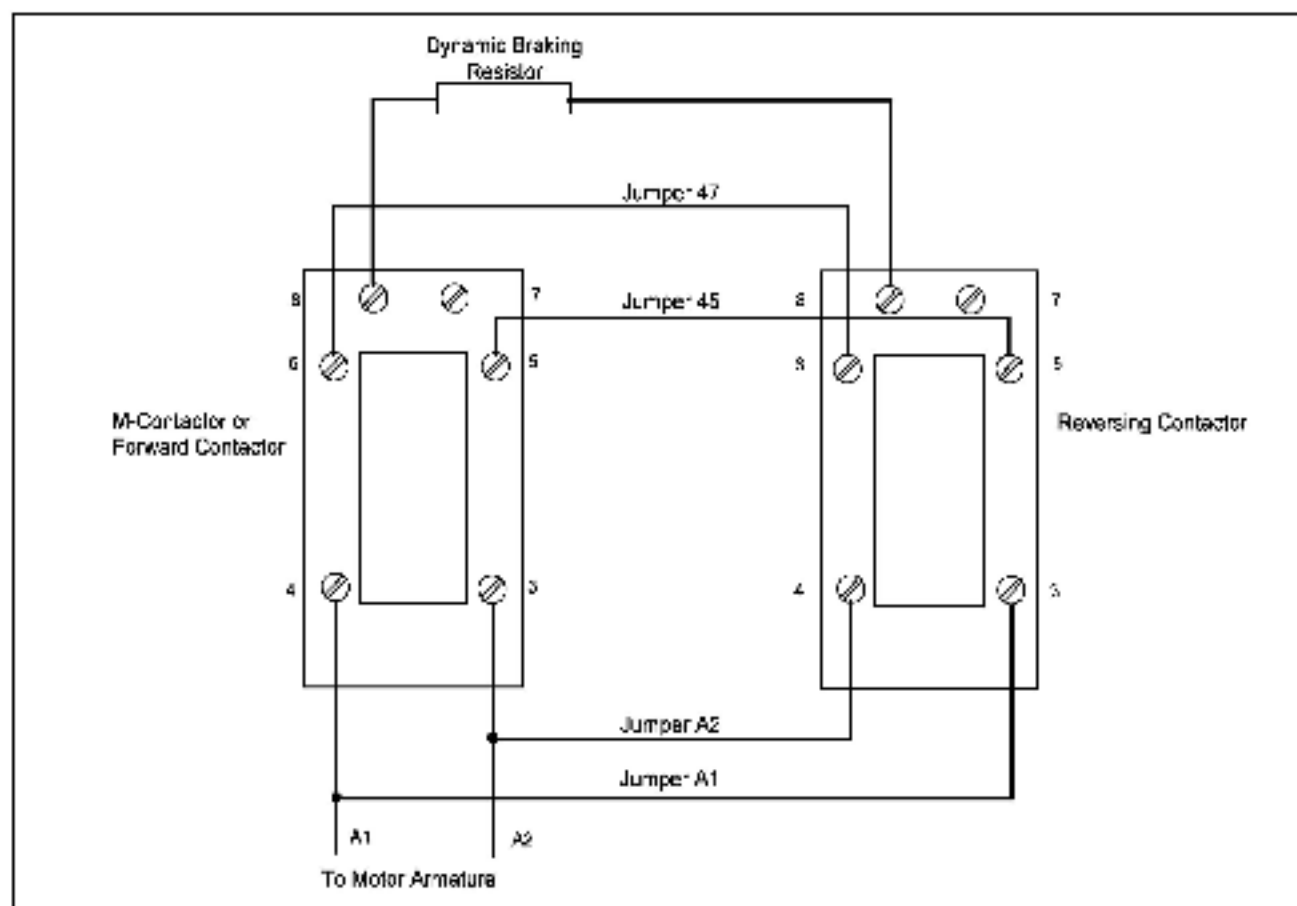

Figure 3 Dynamic Braking Resistor Connections for Non-Regenerative FlexPak Plus Drives With a Reversing Contactor
- Step 6. For non-regenerative **FlexPak Plus DC drives with a Reversing Contactor**: Connect the dynamic braking resistor between the corresponding normally closed (NC) contacts on the forward contactor and the reversing contactor. For example, connect the resistor between terminal 8 on the forward contactor and terminal 8 on the reverse contactor. This places the resistor across the motor's armature (A+ and A2) when both contactors are de-energized. Refer to figures 3 and 4.